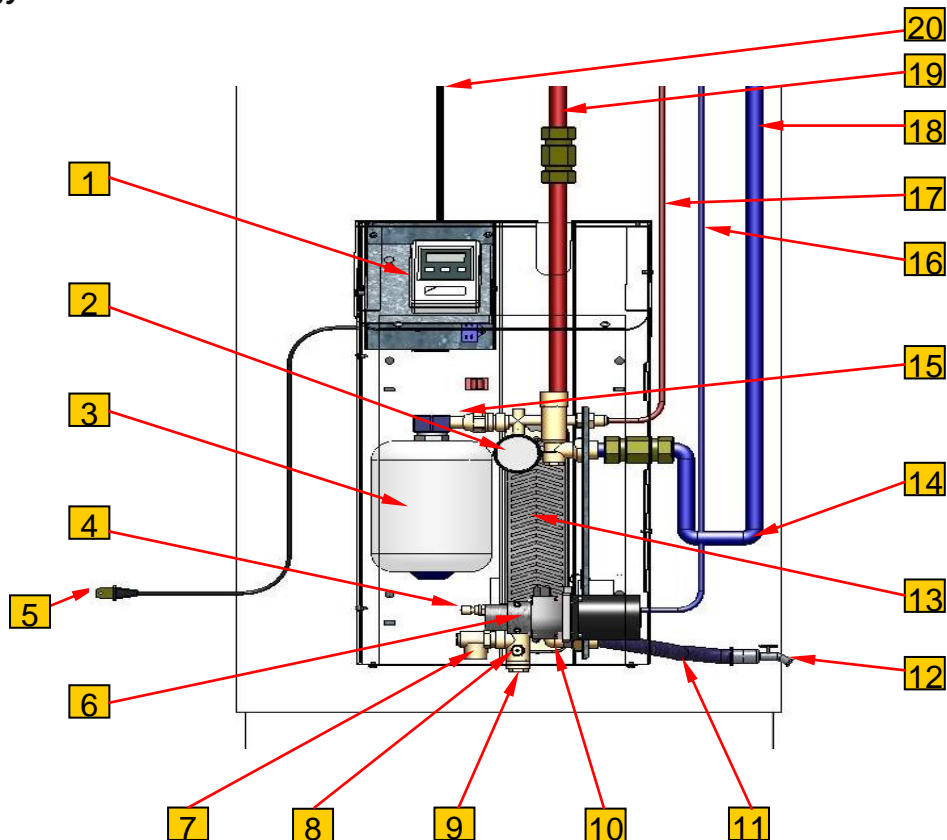
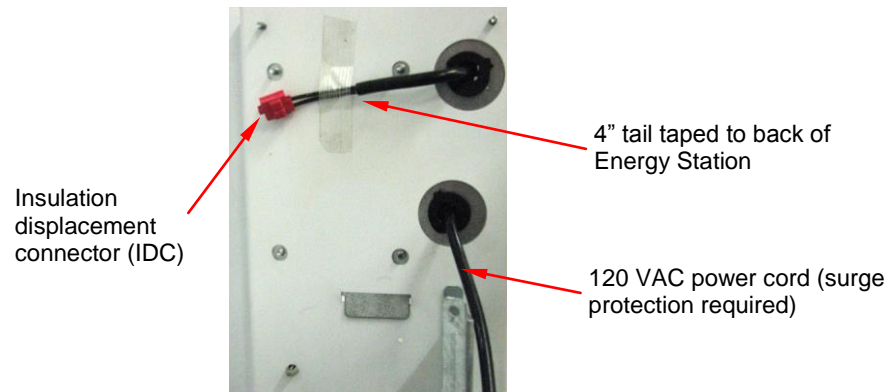

Fig.4.1 - Energy Station mounted to solar storage tank.
Fig.4.2.1 – Cable from upper corner of Energy Station is cut, shorted with IDC, and taped to case.
5. Uncoil black cable with bare wire ends from upper corner of Energy Station, part 20 in (Fig.4.1). Cut cable such that a 4" (10cm) tail remains. Strip cable tail to expose insulated conductors. Do not strip individual conductors. Ground conductor may be cut off. Insert black insulated conductors into supplied insulation displacement connector (IDC). Crimp with pliers and snap to close; Tape to back of Energy Station (Fig.4.2.1).